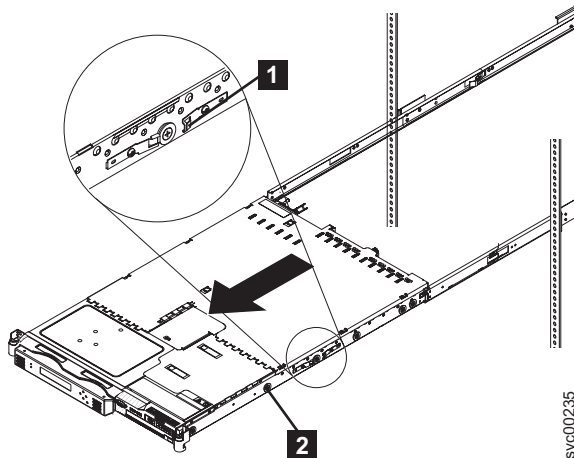

Figure 39. Removing the SAN Volume Controller 2145-8G4 from the rack
4. Position yourself to support the weight of the node when it is no longer held by the slides and then press the rear slide release latches ( **1** in Figure 39) on both sides of the SAN Volume Controller 2145-8G4 node.